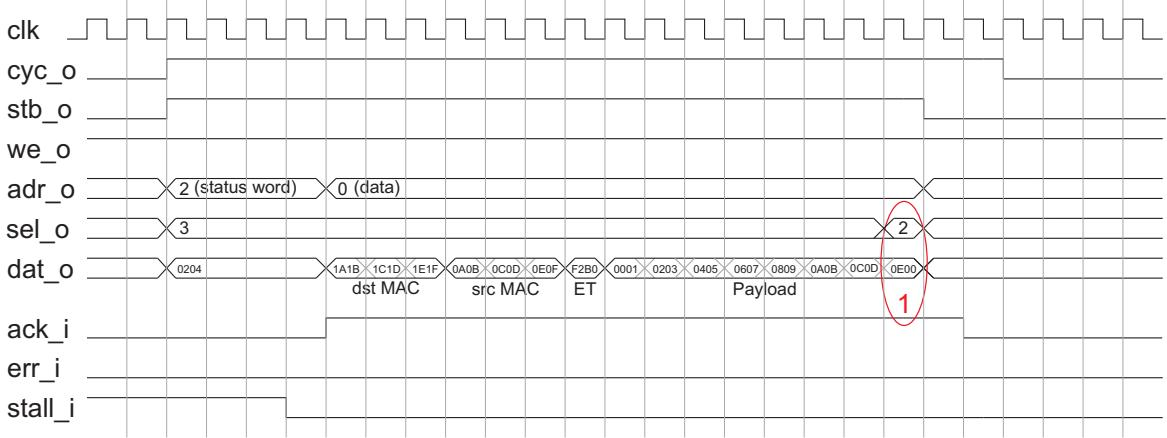

Figure 5: Simple WR Fabric cycle - user-defined module sending packet(odd number of bytes in the payload)
Figure 5 shows again a very simple WR Fabric cycle where user-defined WRF Source sends an Ethernet frame to the WRPC. This time though, the frame contains odd number of bytes, therefore the *sel* line is used to signal this fact to WRF Sink inside the WRPC (1).